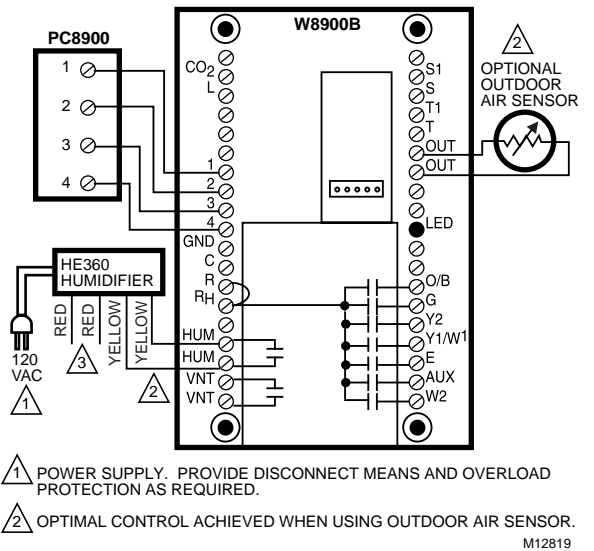

Fig. 10. Typical wiring diagram for humidifier using PC8900/W8900.
1. Connect only the two yellow wires to the W8900 (red wire connections are not used). See the typical wiring diagram in Fig. 10.